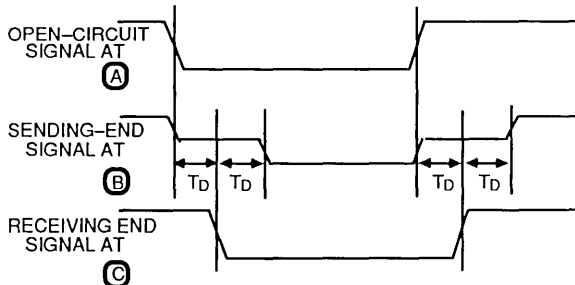

Figure 2.
This equation shows that, as the total source impedance approaches the characteristic impedance of the line, approximately half of the incident wave will be transmitted to the other end of the trace. Since the load impedance is much larger than Z_0 due to the high input impedance of the CMOS devices, most of the transmitted wave is reflected. As a result, overshoots and undershoots on the signal are minimized at the receiving end. If $R_0 + R_s$ is much smaller than Z_0 , a larger portion of the incident wave is transmitted down the trace. Since most of it is reflected, such a condition will cause overshoots and undershoots at the receiving end. Figure 2 shows the effect of series termination under perfect matching (total source impedance equals trace impedance).
2. The waveforms in Figure 2 clearly show the effect of series termination on the waveform at both the sending end A and receiving end B. For a perfectly matched condition, the signal will attain the final value at the sending end after a round-trip delay ($2T_D$), although it will attain the final value after one transmission delay (T_D) at the receiving end. If loads (several IC inputs) are distributed along the PCB trace and are driven by the driver at one end, this condition results in signal skew which may be unacceptable. Therefore, series termination may not be the most suitable form of termination for distributed loads. Of course, the ratio of source to trace impedance can be adjusted to ensure that the threshold of the receiver is crossed on the **first incidence of the transmitted wave**, but this is normally at the expense of some undershoot and overshoot during signal transitions.